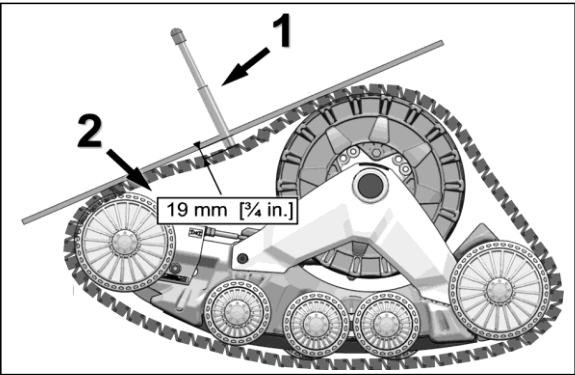

Figure 29
The following table shows the force (1) applied and the deflection (2) which must occur depending on the conditions of use. Refer to Figure 29.